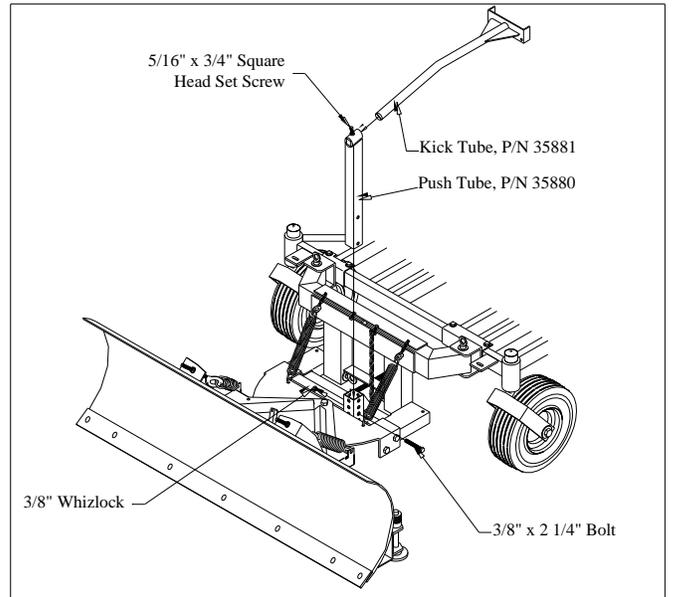

Fig. 10
10. Slide kick tube (5) into push tube (4) and secure with 5/16" x 3/4" square set screw (finger tight only). Slide assembly into receiver on carrier frame. Adjust height to best fit your specific application and secure with 3/8" x 2 1/4" bolt and whizlock nut. Loosen 5/16" x 3/4" square head set screw and slip kick tube (5) to the most comfortable position for operation and secure with the 5/16" x 3/4" square head set screw. **FIG. 10**